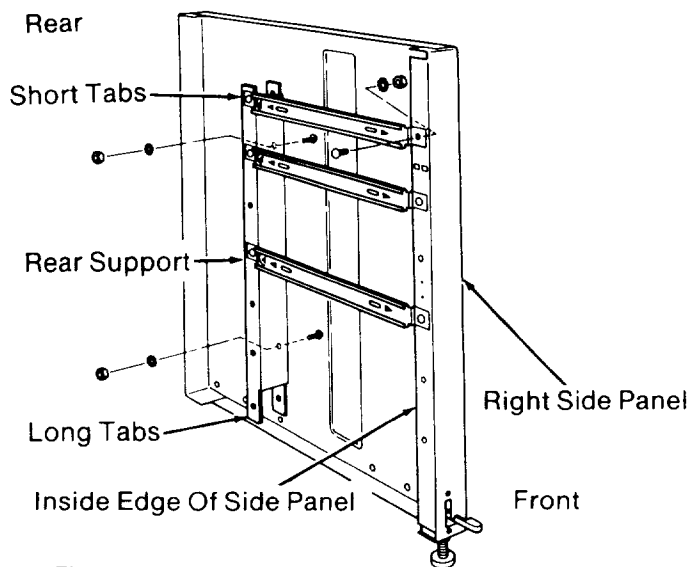

Fig. 35
6. Attach this *rear support* to the *right side panel* with two truss head bolts. Make sure that the long tabs are on the bottom and the short tabs are on top. Make sure that the solid surface is facing front. Put a lockwasher and hex nut on each bolt and tighten using a 7/16 inch wrench or socket. (Figure 35)
8. Attach the front end of each *slide bracket* to a hole on the inside edge of the *side panels* with six truss head bolts. Put a lockwasher and hex nut on each bolt and tighten with a 7/16 inch wrench or socket. (Figure 35)